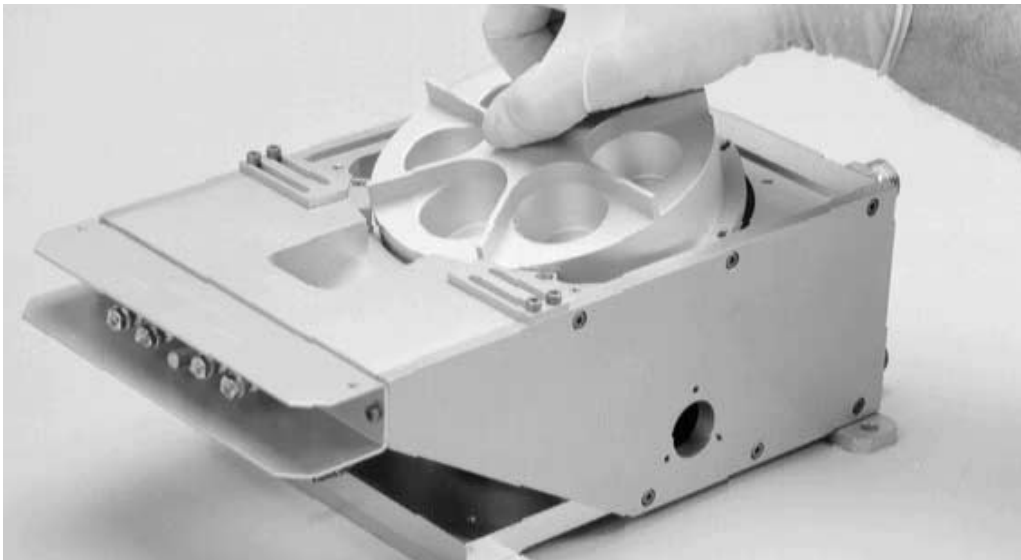

Figure 6-5. Removing the crucible from the source. Note angle of withdrawal.
- (c) Pull the crucible clear of the coil housing by angling it upward and backward at the same time, as shown in Figure 6-5. At this point, be very careful not to scrape the crucible's O-ring-sealing surface on the water baffle.
- (b) Angle the crucible into the position shown in Figure 6-5. Next, lower its rear end so that its bottom surface is horizontal; then lower the crucible straight down onto the O-ring. As you perform this step, take great care to avoid scraping the underside of the crucible's O-ring-sealing surface against the water baffle.